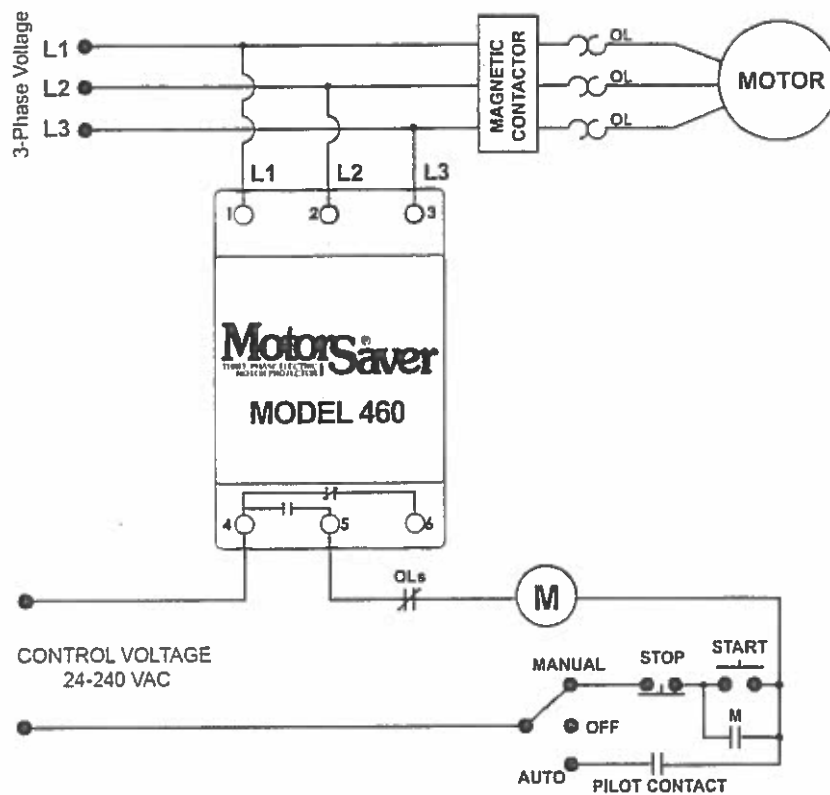

FIGURE NO. 1: CONTROL WIRING DIAGRAM
2. Connect L1, L2 and L3 on the MotorSaver's terminal strip to the LINE SIDE of the motor starter. (See Figure No. 1).
3. Connect the output relay to the circuitry to be controlled. For motor control, connect the normally open contact in series with the magnetic coil of the motor starter as shown in Figure No. 1. For alarm operation, connect the normally closed contact in series with the control circuit as shown in Figure No. 2.